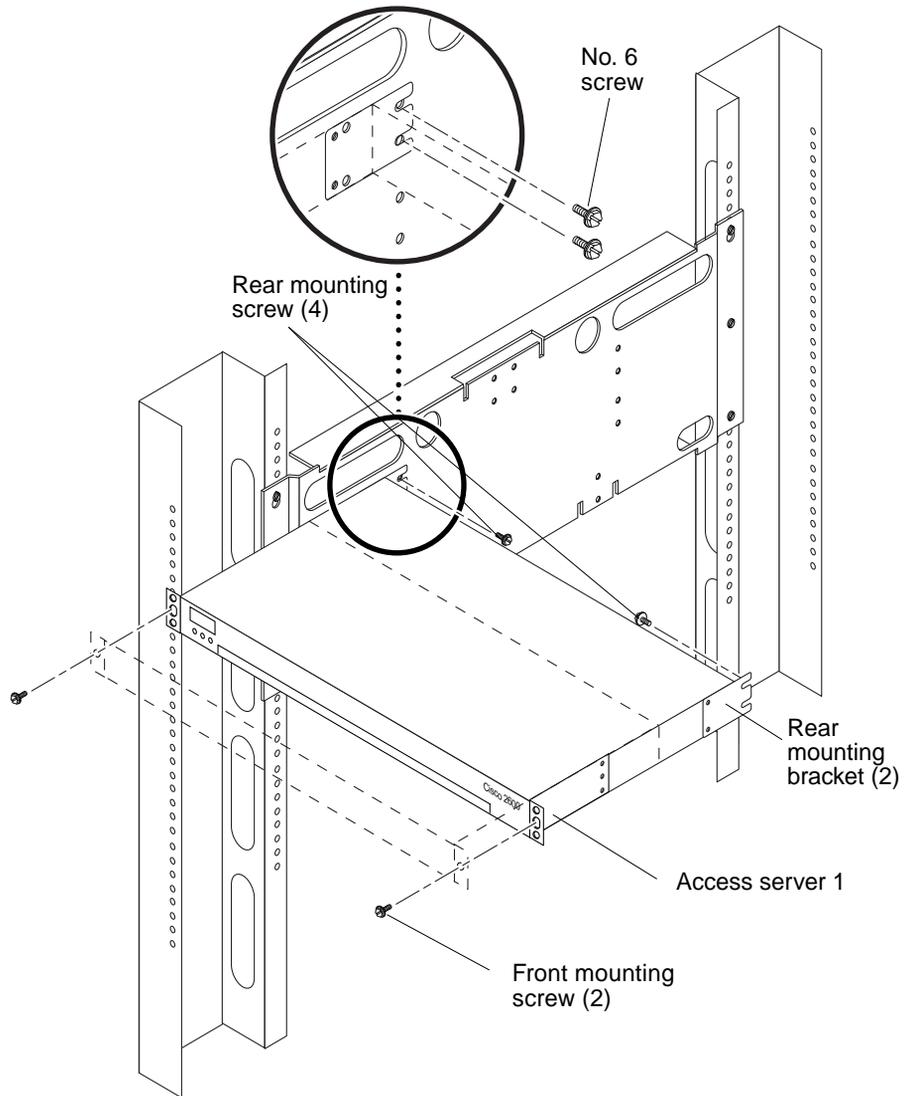

FIGURE 9-1 Removing and Replacing the Access Server
5. Using a No. 2 Phillips screwdriver, proceed as follows (FIGURE 9-1):